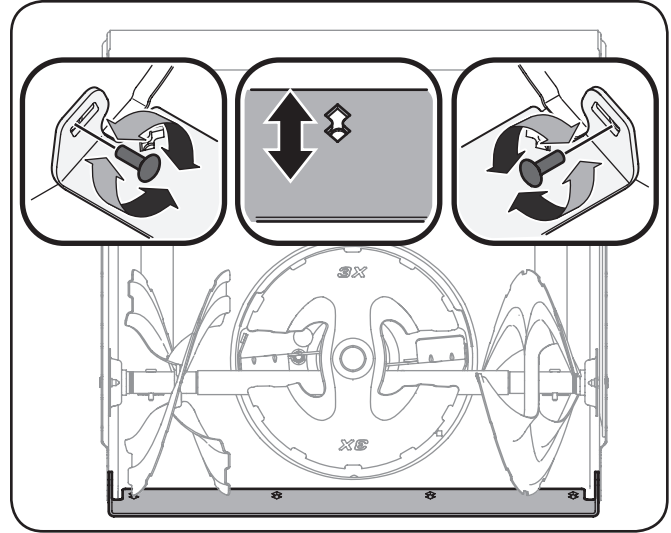

**Figure 6-2**
4. Slide the shave plate downward into the second position. Reinstall and tighten all bolts securely. See Figure 6-2.